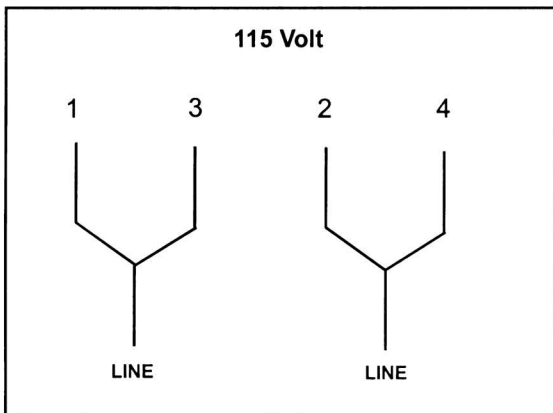
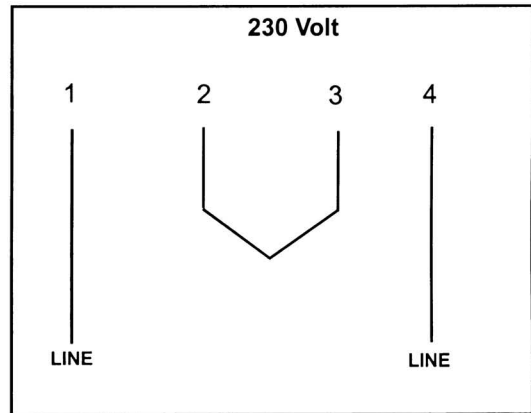

Fig. 4
Fig. 5
2. This band saw is supplied with four motor leads that are connected for 115V operation, as shown in Fig. 4. Reconnect these four motor leads for 230V operation, as shown in Fig. 5.